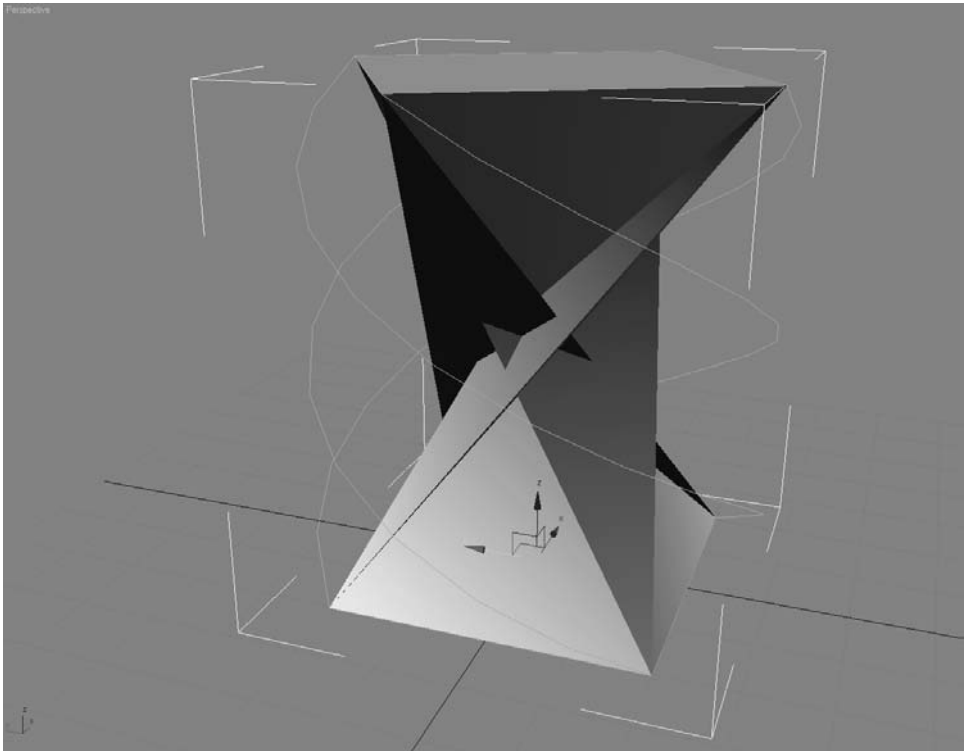

**Figure 4.8**
2. With the box selected, choose Modifiers → Parametric Deformers → Twist. The box should now have an orange outline, and Twist should appear in the Modifier Stack. Go to the Modify panel to see the Modifier Stack, as shown in Figure 4.8. Click Twist in the Modifier Stack to access its parameters.